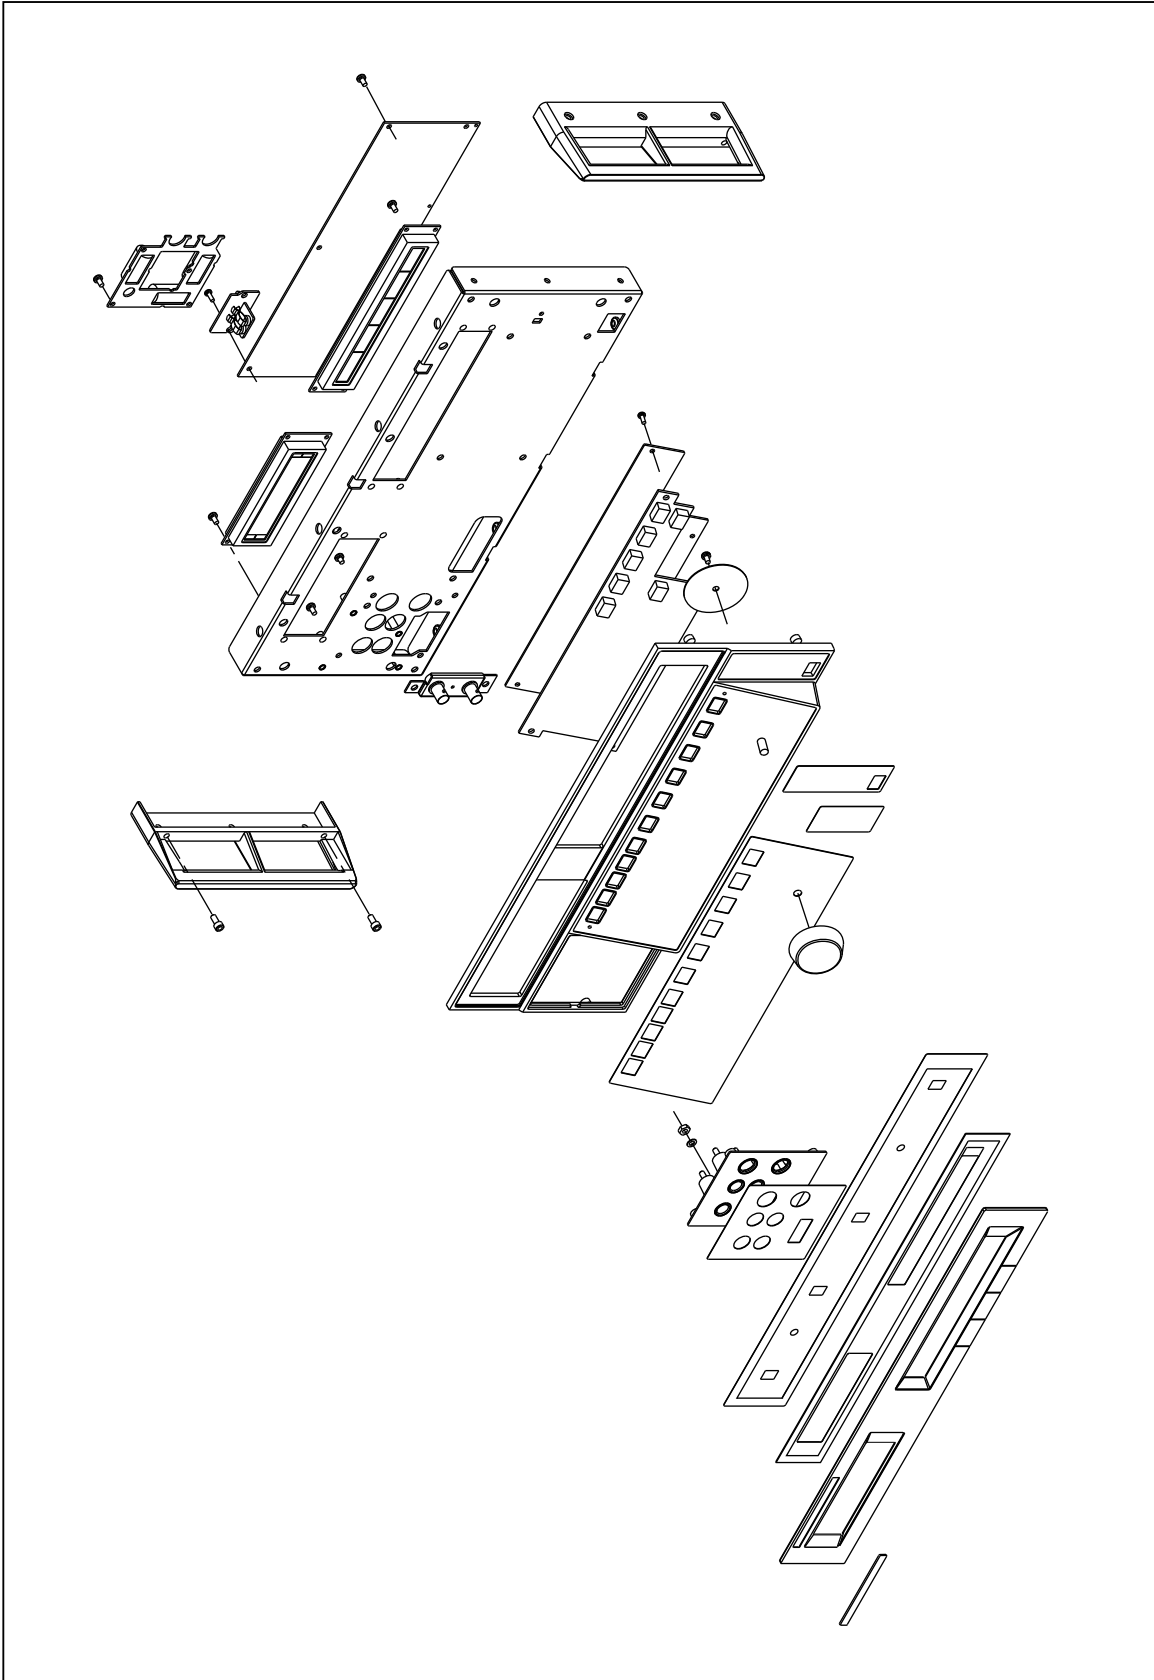

Figure 4-2. Exploded View of Front-Panel Assemblies
*Figure 4-2 shows an exploded view of the front-panel assemblies.*